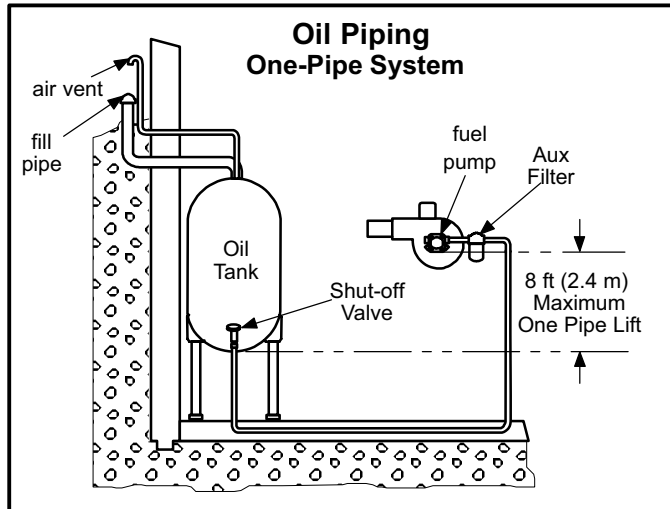

Figure 14
When using a one-pipe system even with the oil tank that is above the burner and a vacuum of 6" (152 mm) Hg or less, a single-stage fuel pump with a supply line and no return line should be adequate. See figure 14.
- 2 - Arrange the primary burner control for continuous operation during purging. See figure 14.